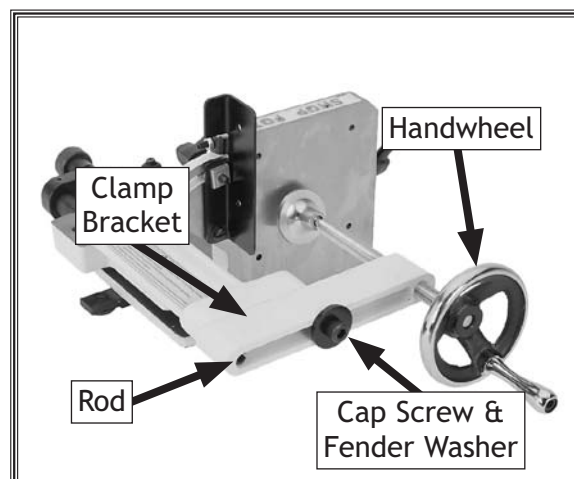

Figure 6. Clamp shoe, bracket, and handwheel installed.
3. Slide the clamp bracket over of the clamp brace rod, as shown in Figure 6, then secure it with the M8-1.25 x 50 cap screw and the 8mm fender washer.
4. Align the set screw in the hub of the handwheel with the flat of the clamp shaft, then slide the handwheel onto the shaft and tighten the set screw to secure it in place (see Figure 6).